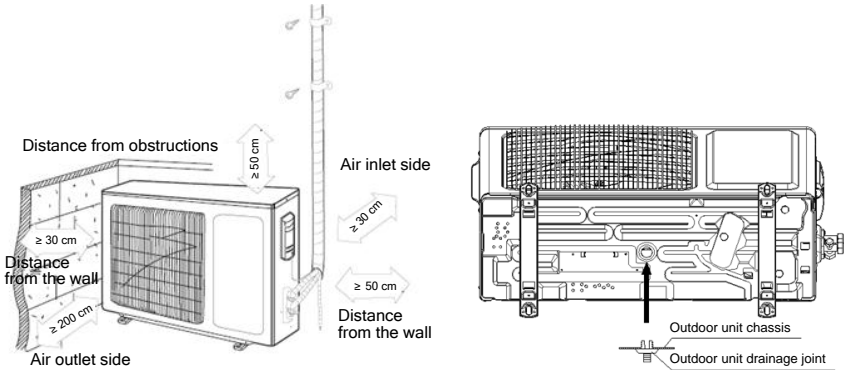

Figure 5-2 Space requirements for installation      Figure 5-3 Drainage pipe connection
(2) The distance between the main unit and the walls or other obstructions must not be too small, and the space for installing the main units must meet the requirements provided in Figure 5-2.
(3) If a canopy is to be installed for the water heater main unit, note that the heat dissipation and absorption should not be affected.
(4) The main unit must be installed in the host places a solid foundation, and ensure that the main unit is installed upright, and fastened with foundation bolts. If the vibration is strong, add rubber gaskets to prevent vibration.